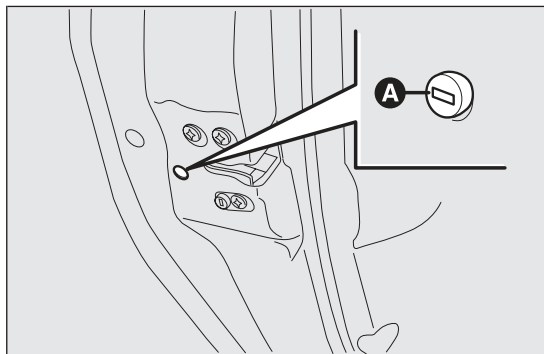

fig. 84
- ☐ insert the metal insert of the ignition key into housing A fig. 84;